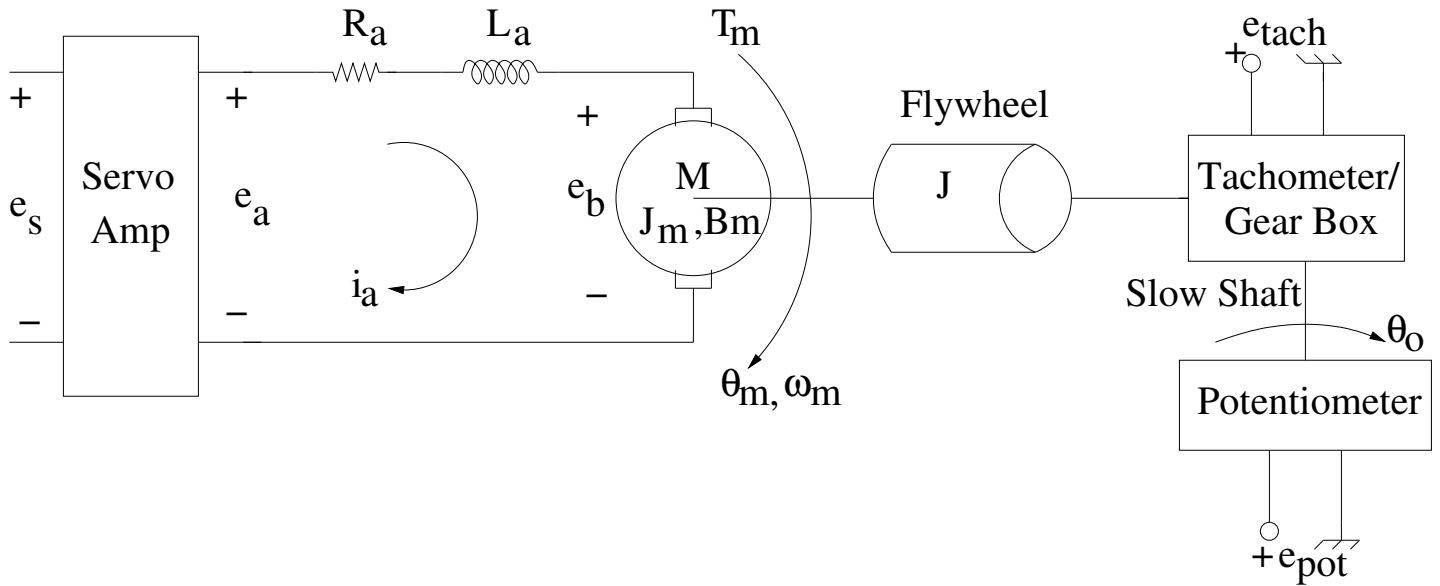

Figure 4.1. DC motor model for position and velocity control.
The purpose of this laboratory is to develop a mathematical model of a servo system from Feedback Instruments Limited. The main component of the servo system is the DC motor. The electrical model of the motor is shown in Figure 4.1. The DC motor is basically a torque transducer that converts electrical energy into mechanical energy. The torque developed on the motor shaft is directly proportional to the field flux and the armature current. Assuming that the field flux is constant, the motor torque can be written as
where  $e_s$  is the voltage applied to the servo amplifier and  $K_{sv}$  is the gain of the servo amplifier. If the flywheel is mounted directly to the motor shaft, the mechanical output of the servo-mechanism shown in Figure 4.1 is given by
1. Draw the block diagram of the servo system shown in Figure 4.1 with  $e_s$  as the input; and tachometer and potentiometer voltages as the outputs.
- Set up the circuit shown in Figure 4.1 and collect the data in Table I.